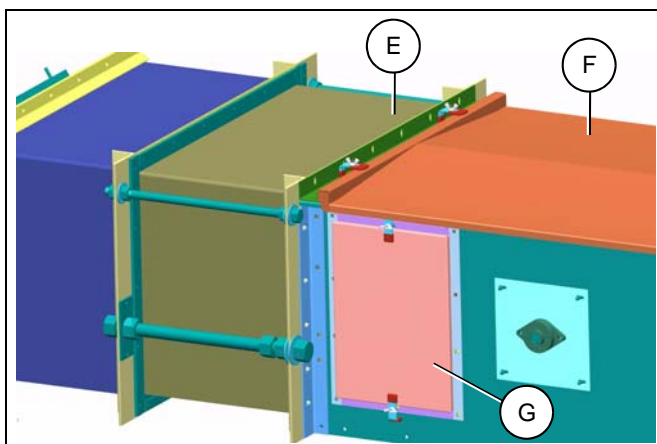

Figure 4C
- Two (2) inspection intermediate sections are included on each installation. They should be assembled at the head and tail. The inspection holes should be oriented closest to the head or tail. (See Figure 4C.)